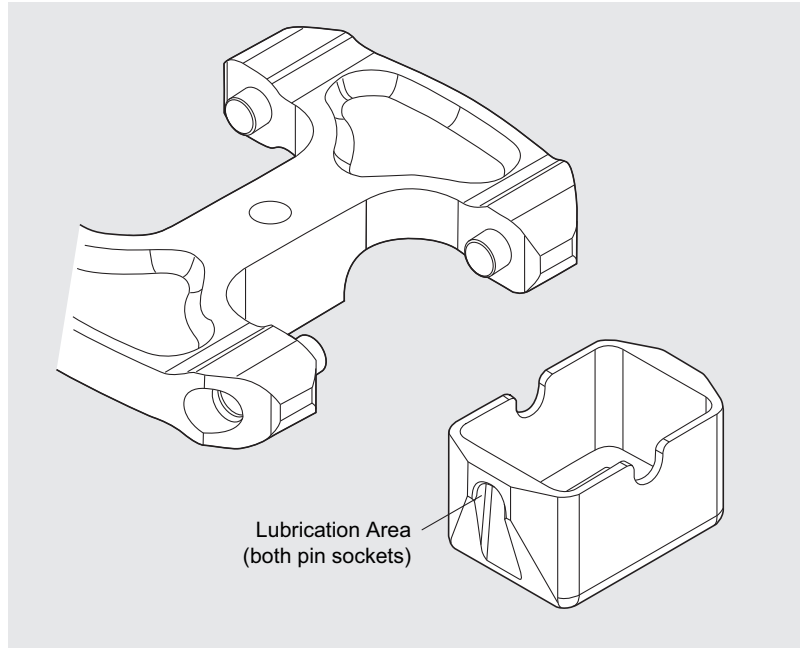

Figure 2. Lubrication Points
- Approximately once a week, and after cleaning and/or auto-claving, lubricate the rotor pin sockets (see Figure 2) with a lubricant such as Paint On Graphite Lubricant (977212). Allow the lubricant to dry for at least 5 minutes before installing the rotor in a centrifuge.